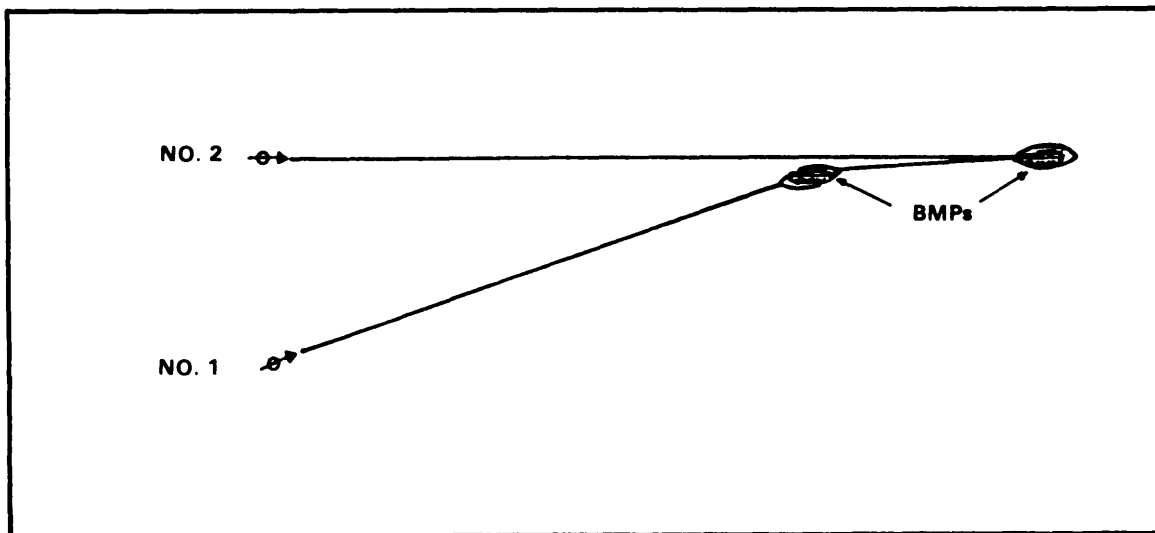

Figure 6-17. Two MK 19s, deep enfilade target, ends visible.
(1) Target ends visible to gunner. The Number 1 gun is adjusted first on the near end and the Number 2 gun on the far end. Each gunner searches to the opposite end and back again repeatedly, until told to cease firing (Figure 6-17). Target depth is considered in determining sight settings. The command is SEARCH.